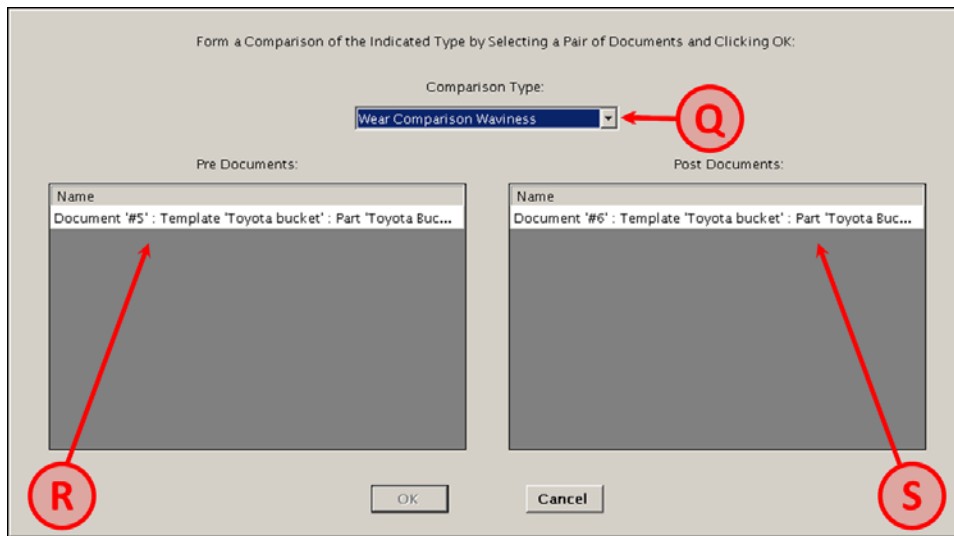

Figure 11 - Comparator Software Document Selection Screen
- 7.12.1. Select **(Q)** Wear Comparison Waviness from the *Comparison Type* pull down menu of the document selection screen (Figure 11).